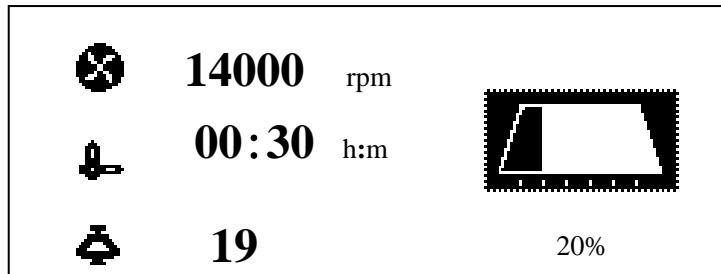

Figure 7-4 Processing Screen
- (2) Press  button again to start running.
- After accelerating for 8 seconds, the interface will display the processing screen, see the Figure 7-4.